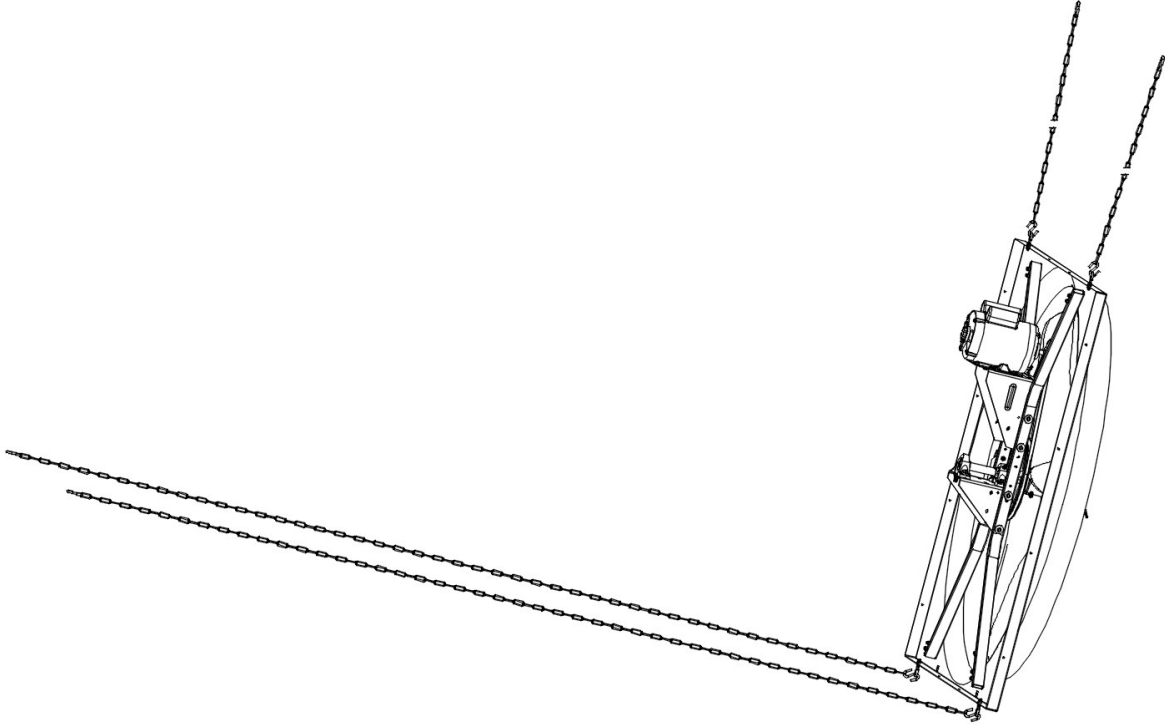

Figure 5
If it is desired to angle the hanging fans down, attach Eye Hooks and Nuts (not provided) to the bottom flange of the Apex Fan and then use the remaining (4) S-Hooks [A] and (2) Chains to pull the bottom of the fan up to the desired angle. See Figure 5.